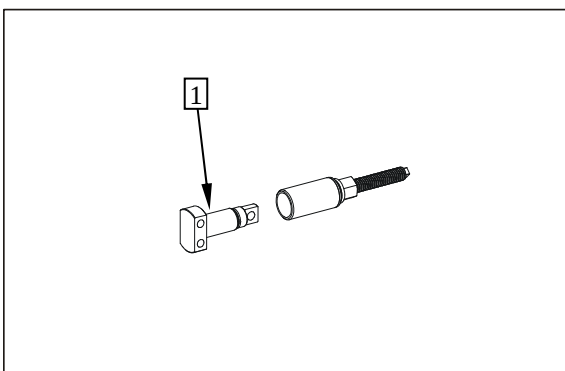

Figure 12
Install relay lever support (Figures 12 to 14).
Figure 12 shows the required special tool for fitting the bearing bolt (1).